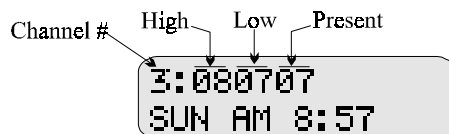

Figure 9-1 Mode 25 Display
To enter troubleshooting mode:	Press [2][5][ENTER] + Code 0 or 1. The first line of the display will show the default channel number (3). (See Figure 9-1 for an example.) Press [ENTER] if you want to view information for channel 3.